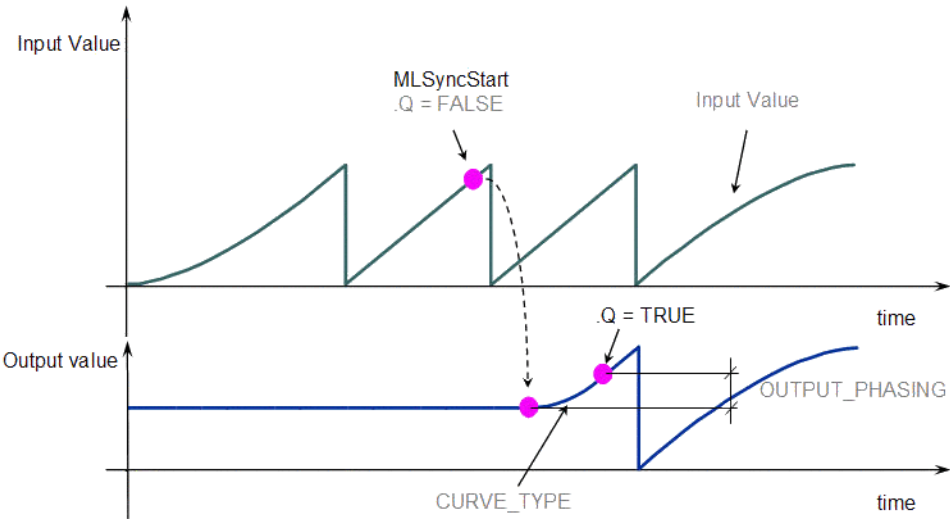

Figure 4-76: Get Output Phasing after **MLSyncStart**
- The OUTPUT_PHASING parameter is used to define a curve in order to smooth the output value. (Figure 4-76)